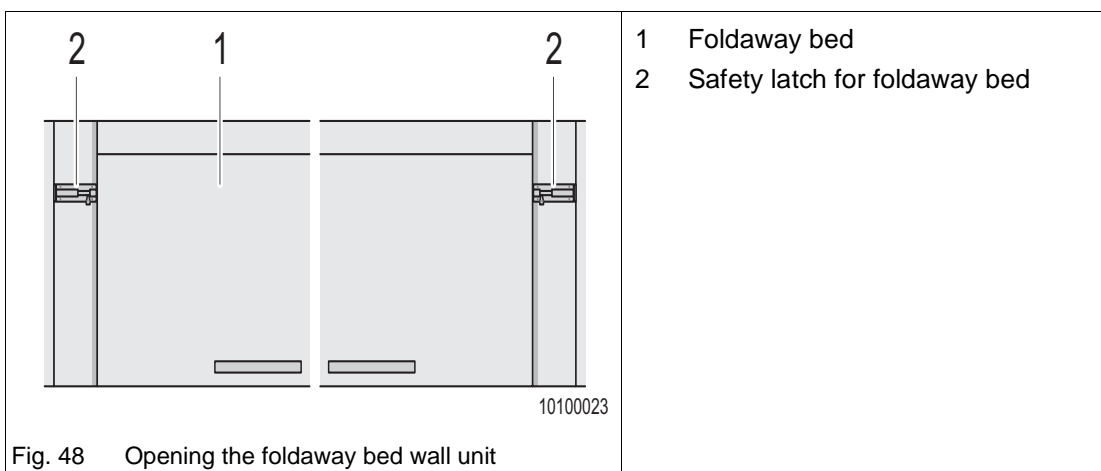

Fig. 48 Opening the foldaway bed wall unit
- ➔ Empty the wall unit of the foldaway bed (Fig. 48/1).
- ➔ Secure the wall unit with one hand and use the other hand to open the right and left safety latches (Fig. 48/2)..